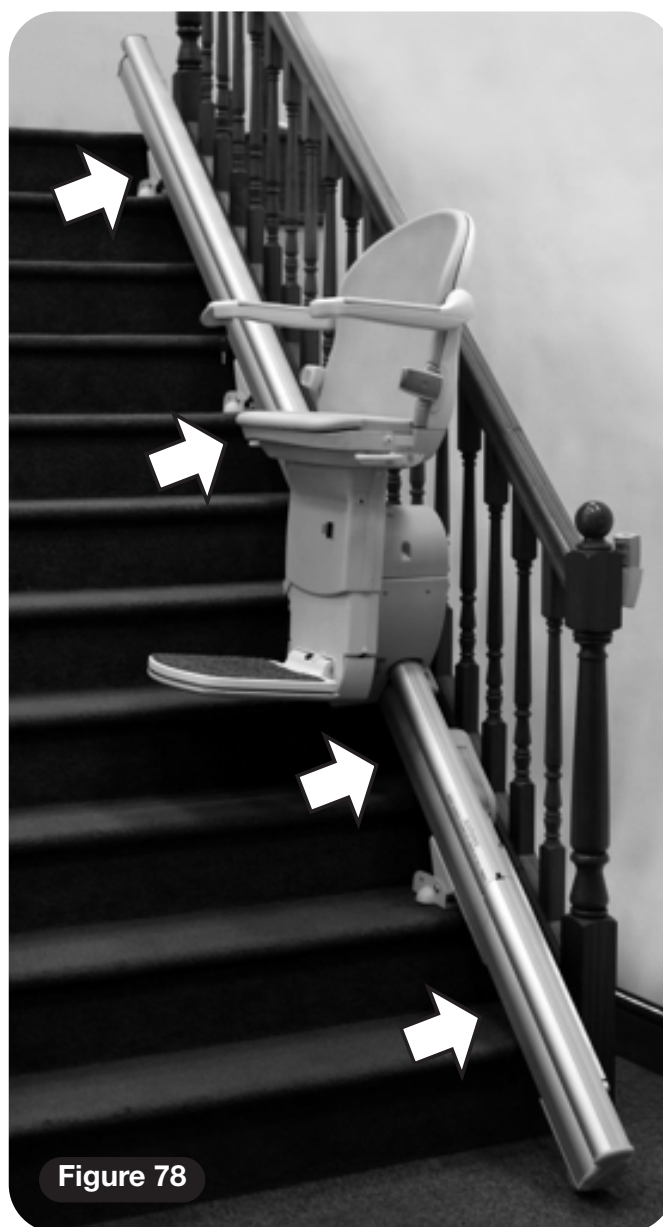

Figure 78
- a** Apply a small amount of petroleum jelly at 4 equally spaced points along the track in the rack recess (**Figures 78 and 79**).